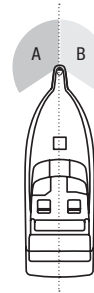

Figure 2
1. Align pole screw with the slot (or locking spring) in the existing base. Insert pole into base (Figure 2).